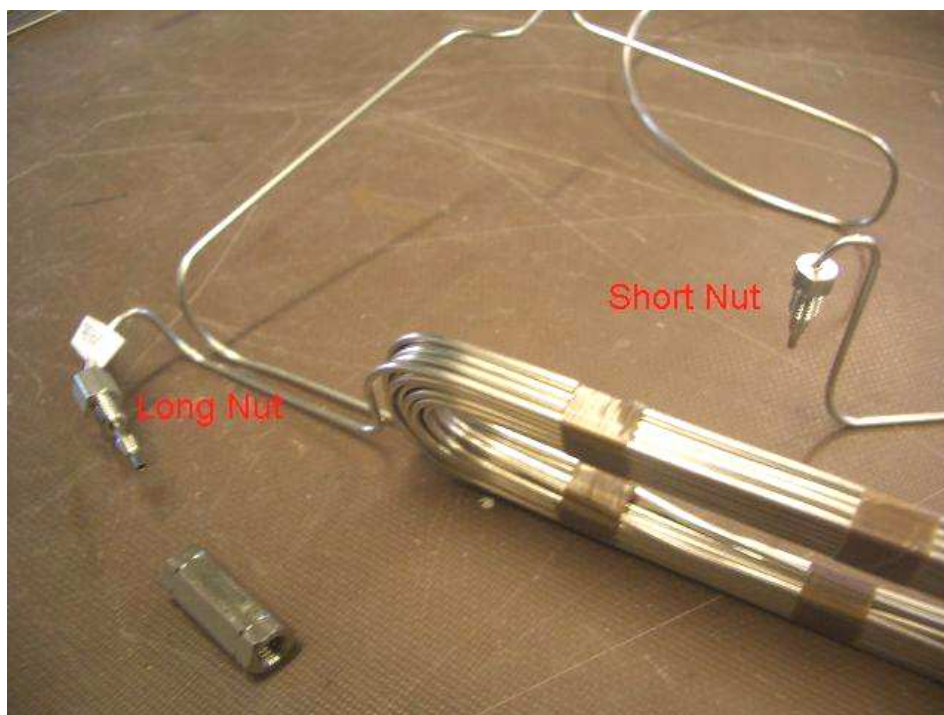

Figure 9: Different nuts on the Sample Coil and Connecting Coil
2. Note that two different nuts (*Fig. 9*) are supplied with the Sample Coil and the Connecting Coil. The longer nut is fitted to the Injector Valve (top fitting) end of the tubing and the short nut is fitted to the back of the injector needle.